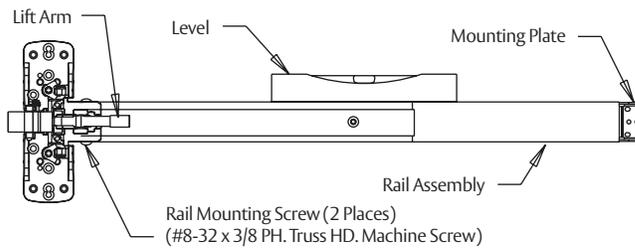

Figure 6
2. Attach rail assembly to chassis with two (2) #8 truss head machine screws. Do not tighten screws (Figure 6).